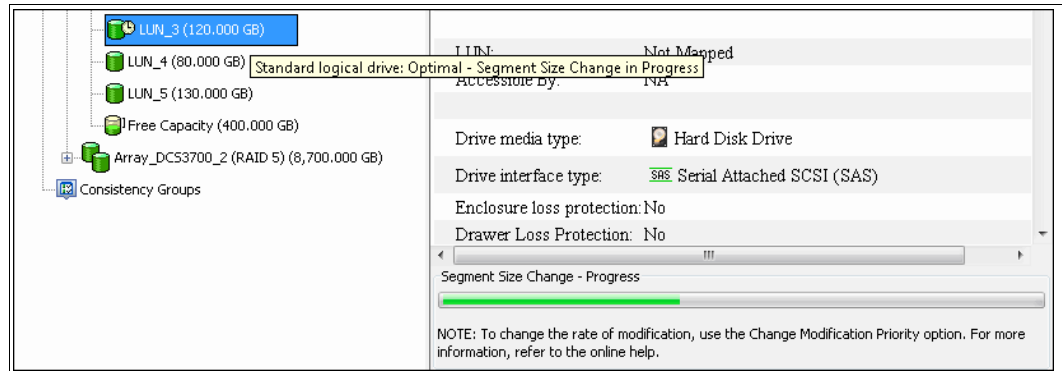

Figure 8-51 Progress bar during segment size modification
3. Select **Yes** and the logical drive begins to be modified. You can see the clock icon on it and the progress bar in the Properties pane, as shown in Figure 8-51.